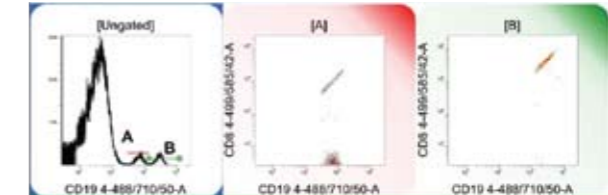

Figure 8- CD19 Histogram Uncompensated Showing the Spectral Overlap of CD8 into CD19 Detector.
- Autofluorescence of positive and negative populations must be the same for all compensation controls in order to achieve correct compensation (4)
- A weak signal is produced from CD19 expression. This makes it difficult to determine positive populations from negative populations. Not just a case of the brightest peak being the positive population. See fig. 8 where the uncompensated CD19 histogram shows two positive peaks. The brighter of these two is actually the spectral overlap of CD8 into the CD19 detector whereas the weaker positive peak is CD19 only.
- Compensation values must always be recalculated if the voltages of the Photomultiplier Tubes (PMT) are altered (3).